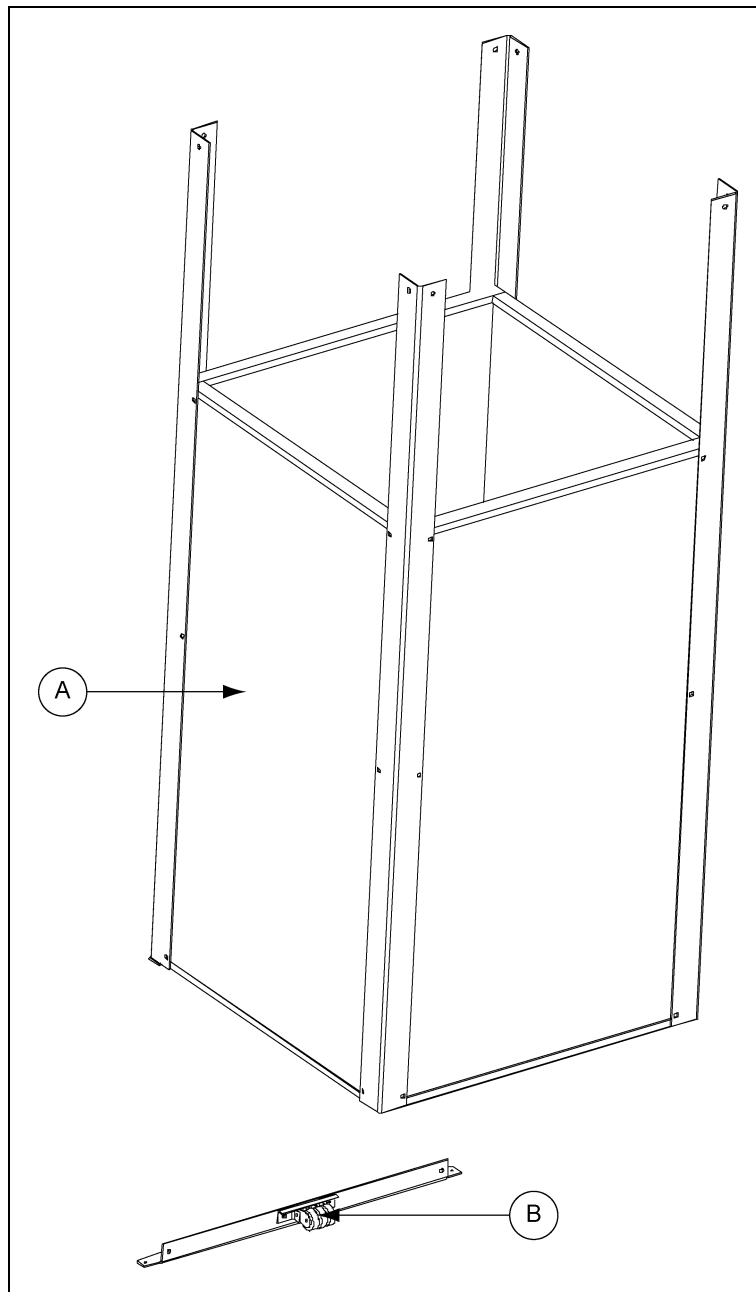

Figure 2B
1. Bolt pulley bracket assembly (B) to the bottom of the chamber (A) on one of the two (2) sides that does not have the pivot of the damper in it. Use two (2) 1/4" x 1-3/4" carriage bolts and 1/4" lock nuts. (See Figure 2B.)